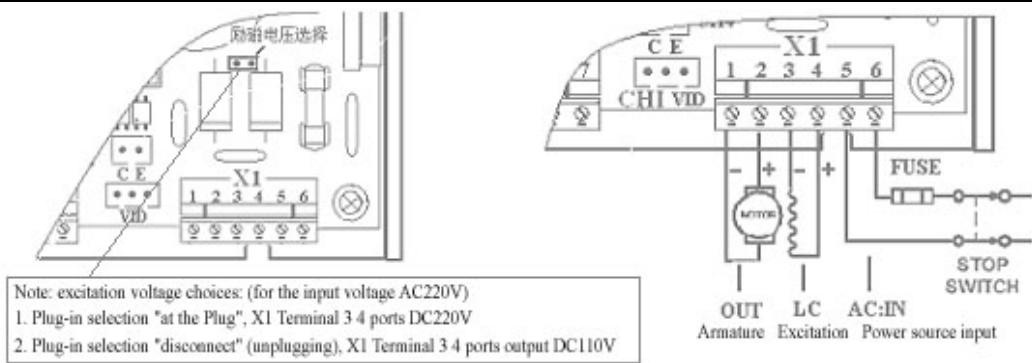

Figure 3
1. X1: Wiring diagram of Terminal, see Figure 3
Note: excitation voltage options, see figure 3 left Tagging